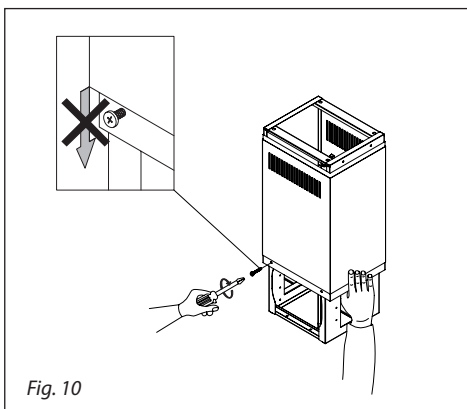

Fig. 10
7. Attach the upper chimney cover to the holder, but do not fully fasten the screws, leave them slightly loose so that the lower chimney cover does not slide down and it can lean against the screws (Figure 10).